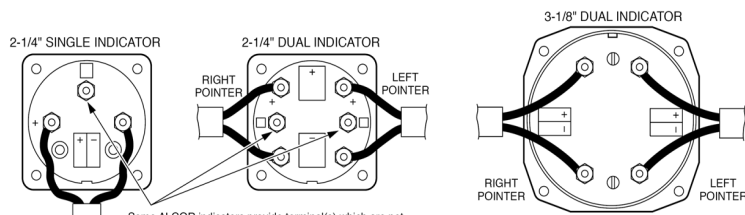

FIGURE 1 - LEAD WIRE CONNECTIONS (Rear View of Indicator)
*Alcor*® indicators will operate properly only when used with *Alcor*® designed probe(s) and lead wire(s). When connecting wires, match color code on the indicator placard (red/yellow for EGT and TIT; black/yellow for CHT). Connect the lead wires as shown in **Figure 1**, observing color coding Red to Red, Yellow to Yellow, Black to Black. Do not use the terminal(s) marked "UCS Use Only" which is (are) optional TIT for analyzer conversion only.